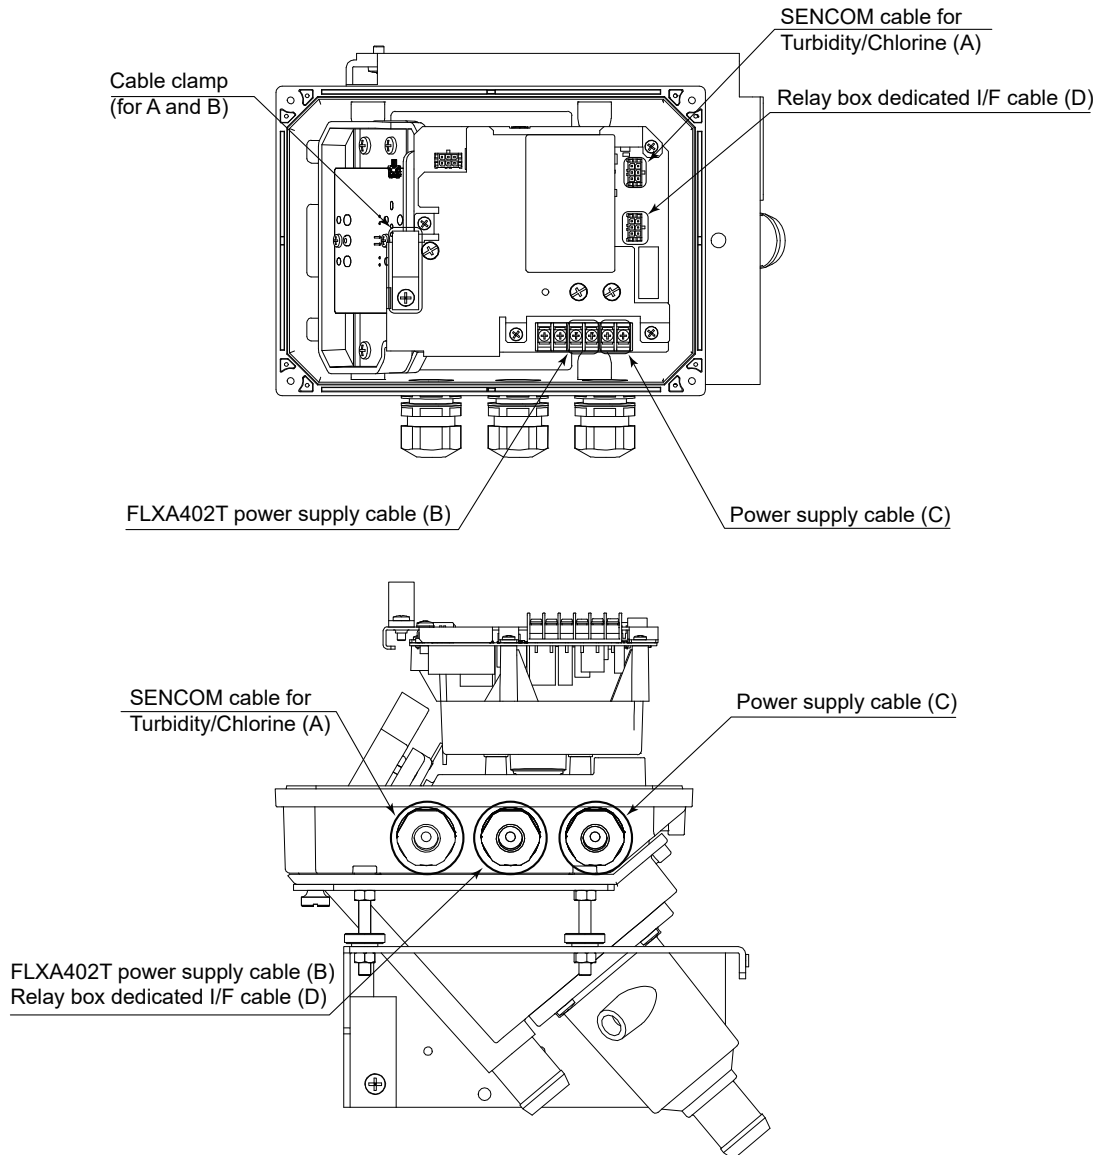

Figure 2.5 **Wiring TB830D side**
Wire power supply cable (TB830D power supply cable (C) or power supply cable (E)) in Figure 2.5 so that it does not come into contact with the SENCOM cable. Otherwise, it results in failure to comply with the safety requirements.